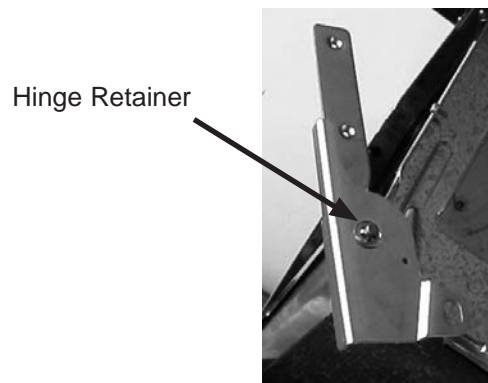

FIGURE 39
4. Remove hinge retainer from hinge pin. Then remove hinge. (See Figure 39)